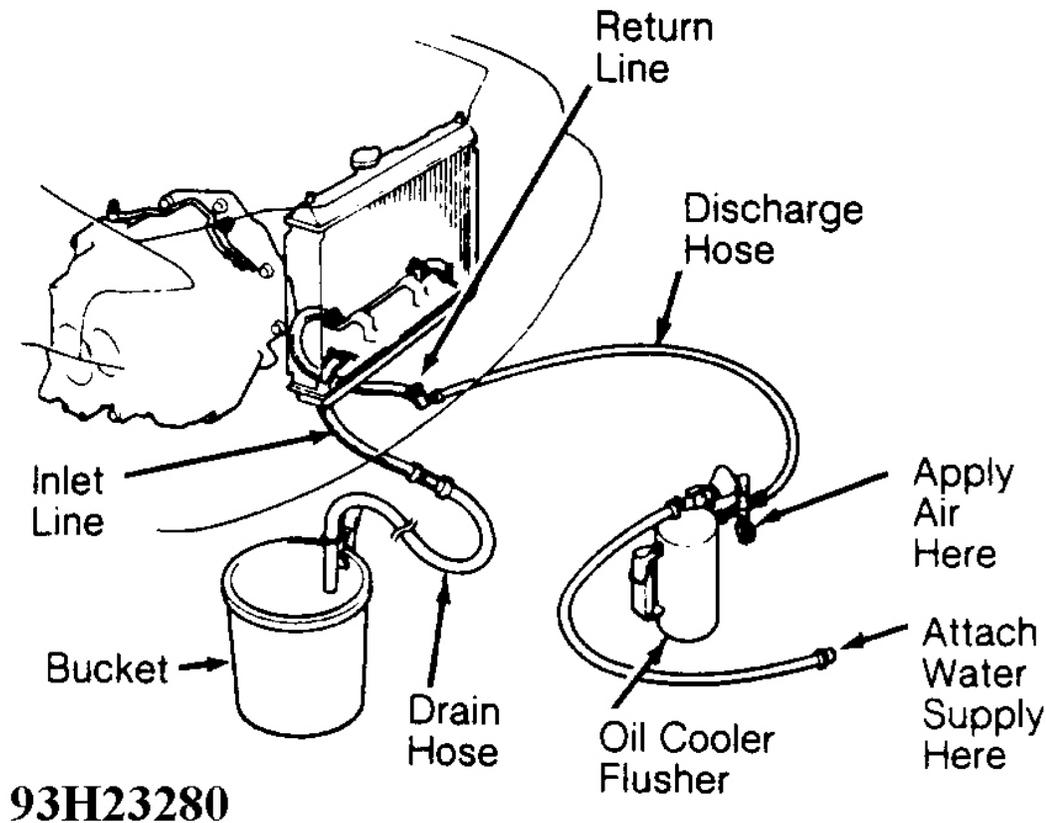

Fig. 3: Installing Oil Cooler Flusher
1. Attach Oil Cooler Flusher (J38405-A) to oil cooler lines. See **Fig. 3** . Fill oil cooler flusher tank 2/3 full with Flushing Fluid (J35944-20). DO NOT use any other flushing fluid.